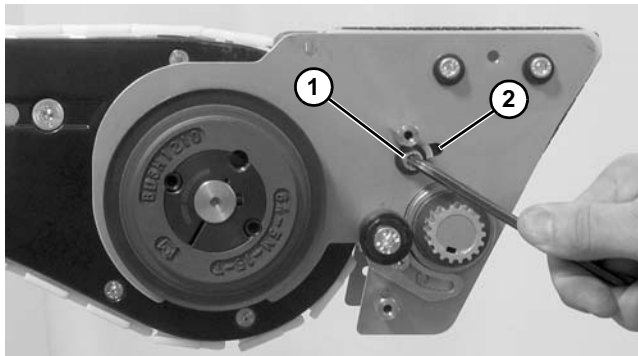

Figure 161
4. Loosen idler socket head screw (**Figure 161, item 1**) on both sides of the conveyor.
5. Slide idler assembly within slot (**Figure 161, item 2**) to remove tension on belt.